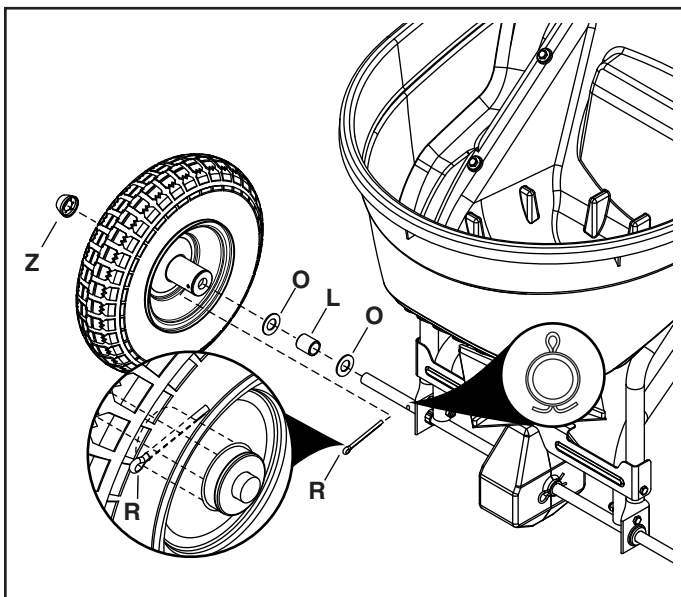

FIGURE 14
STEP 15: (SEE FIGURE 14)
- Slide a 5/8" washer (O), a spacer (L), a 5/8" washer (O) and a wheel onto the end of the axle with a hole.
- **Insert a 3/16" x 2" cotter pin (R) into the wheel stud and out through the other end. Spread both ends of the cotter pin.**
- Carefully hammer a hub cap (Z) onto the axle.